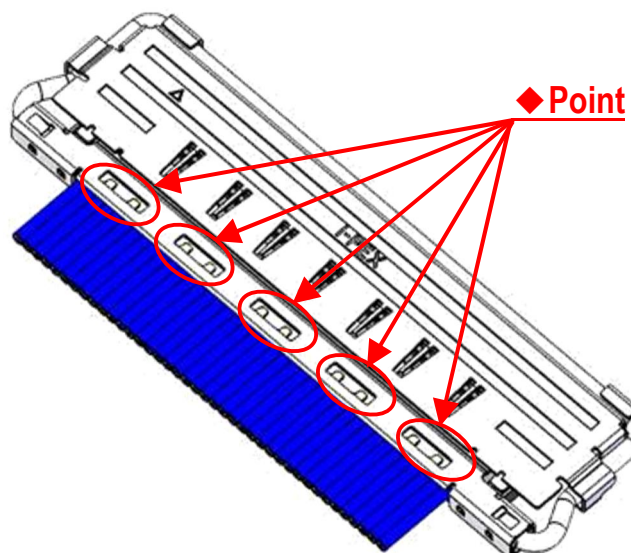

Fig.10 Soldering of Shell-A and Ground Bar
- ④ Soldering shell A, B and ground bar with the soldering iron at all designated points is recommended. (Fig.10 and 11 ◆point)